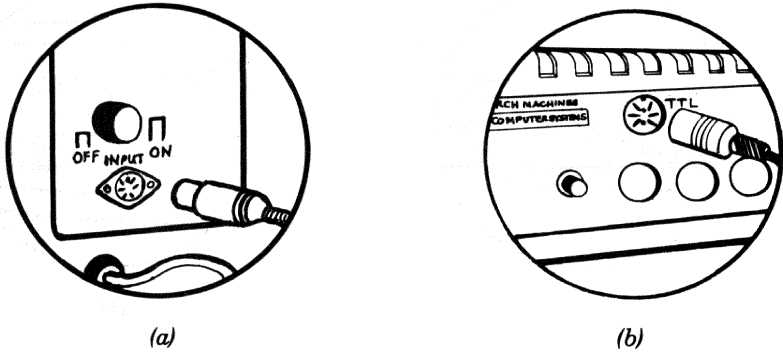

Figure 2.8 Colour Monitor Signal Cable Connections
- Connect the 6-pin DIN plug on the signal cable to the input socket on the monitor, as shown in Figure 2.8(a), and connect the 8-pin DIN plug to the TTL/RGB socket on the rear panel of the 480Z, as shown in figure 2.8(b).